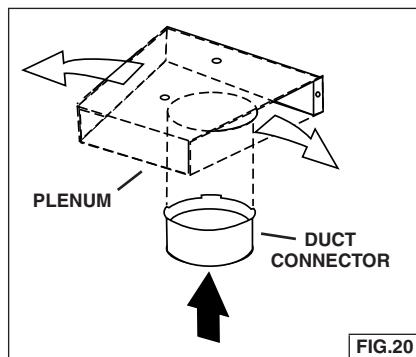

**FIG.18**
11. Attach the 5"-to-6" adapter to blower discharge and tape joint with aluminum duct tape. Fig. 18.